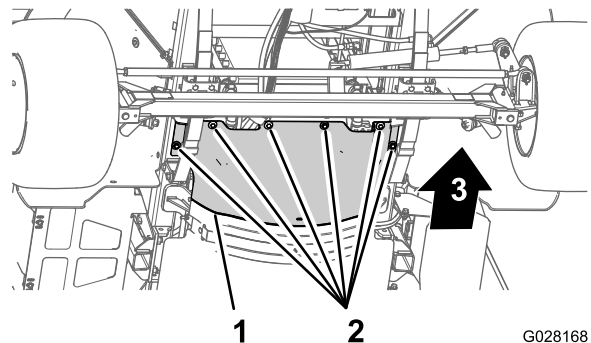

Figure 53
3. Remove the 6 hex-head bolts and 6 washers that secure the front, forward heat shield to the chassis and remove the shield (Figure 53).